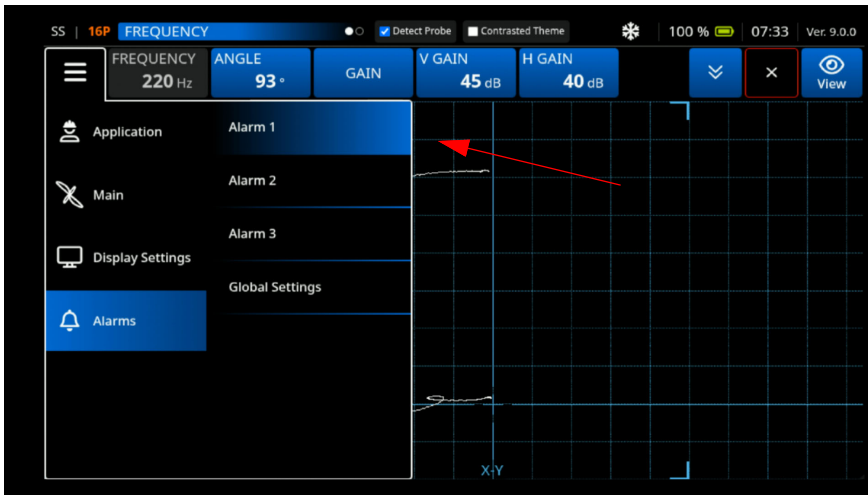

Figure 3-75 Select Alarm 1
3. Select **Alarm 1** (See Figure 3-75 on page 98).